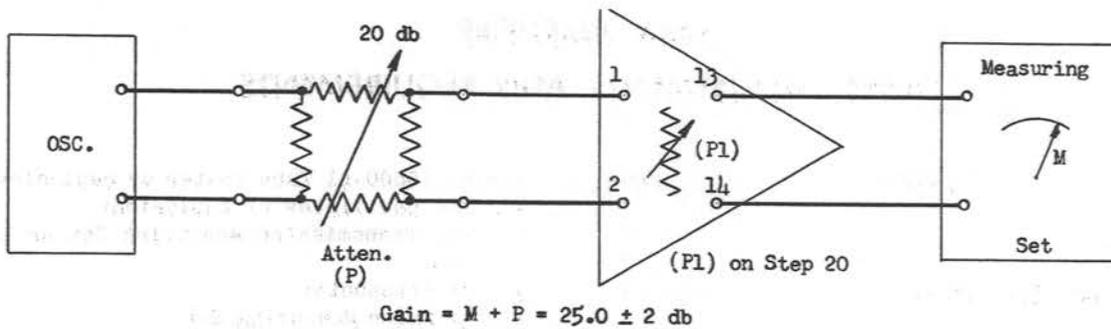

Fig. 1 - 106A Amplifier Gain Testing Arrangement - 600-ohm Input - 40-ohm Output - Maximum Gain
(1) Set up the testing arrangement indicated in Fig. 1, with attenuator P set for 20 db loss and potentiometer P1 in the amplifier on step 20.
(2) Obtain reading (M) on measuring set.